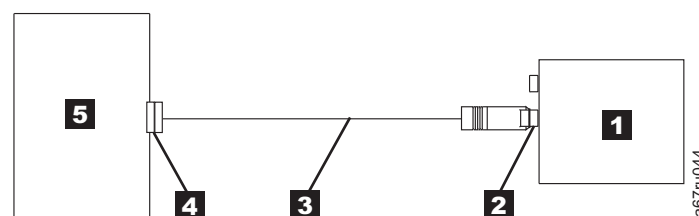
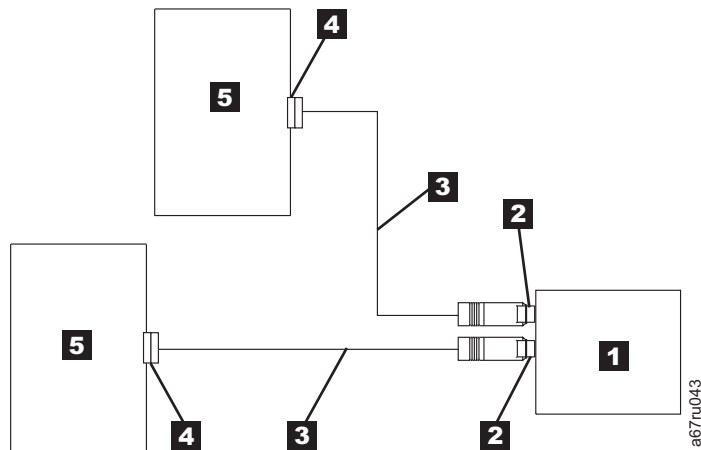

Figure 2-1. Example of connecting one SAS device to the server
Figure 2-2. Example of connecting the SAS device to two servers
3. The tape drive has two SAS ports and can be connected to two servers, if desired. Refer to the appropriate figure that represents your configuration for cabling information (see Figure 2-1 or Figure 2-2 on page 2-4) and then connect the SAS cable(s) to SAS host adapter(s) and to the tape drive as shown.